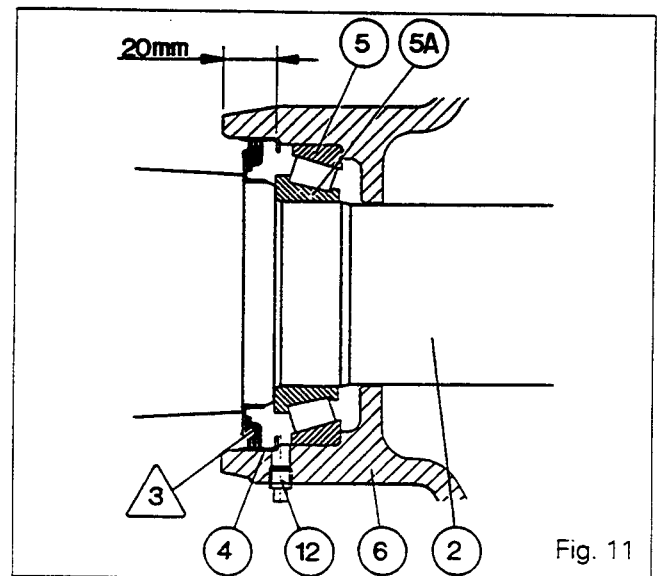

Fig. 11
12. Lubricate the cups (8) and (5) and press them fully on to the shoulder.
13. Press the housing (4) to within 20 mm of the trumpet housing (Fig.11).
**Note: Ensure that the seal is fitted the correct way round (Fig.11).**
15. Lubricate the shaft (2) and press the cone (5A) against the shoulder.
17. Protect the splines of the shaft (2) and insert it into the trumpet housing.
21. Replace the plug (12) by a grease nipple. Partly fill the cavity at the end of the trumpet housing between the cone (5A) and the seal /3\ with BP Agricharge or an equivalent grease. Remove the grease nipple and refit the plug (Fig.11).